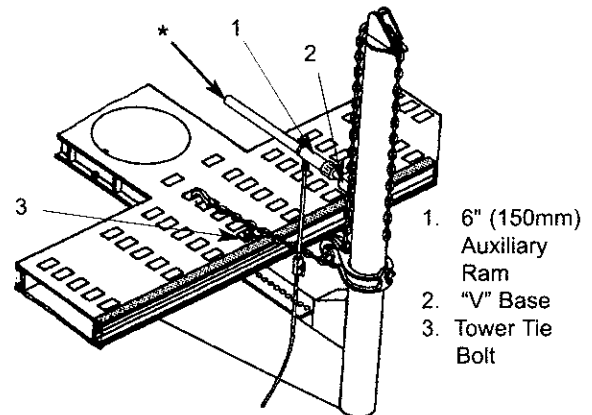

Figure 15
2. Auxiliary ram is used to push from tower to vehicle. (See Figure 15.) Tower will be forced down in this situation unless tower tie bolt is installed.